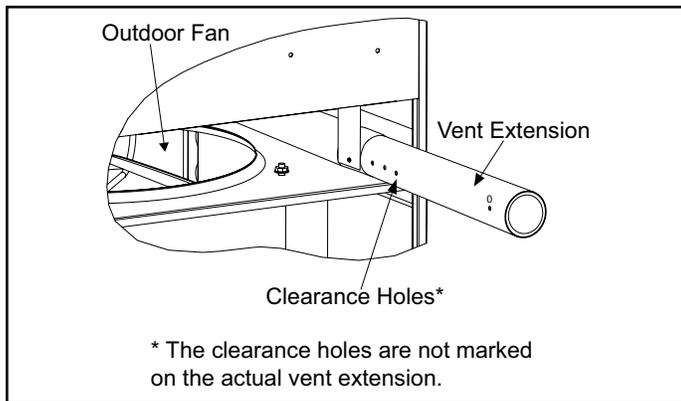

Figure 6. Positioning Vent Pipe Extension
4. Five holes have been drilled into the vent extension (see Figure 6). Four of those holes are provided so that the vent can be extended the necessary length required for the installation. The wall sleeve that is
installed determines which of these clearance holes should be used. Using Table 3 and Figure 6, determine which clearance hole should be used to position the vent extension properly. Slide the vent extension outward and line up the correct clearance hole on the vent extension with the hole in the vent pipe and the hole in the mounting bracket.